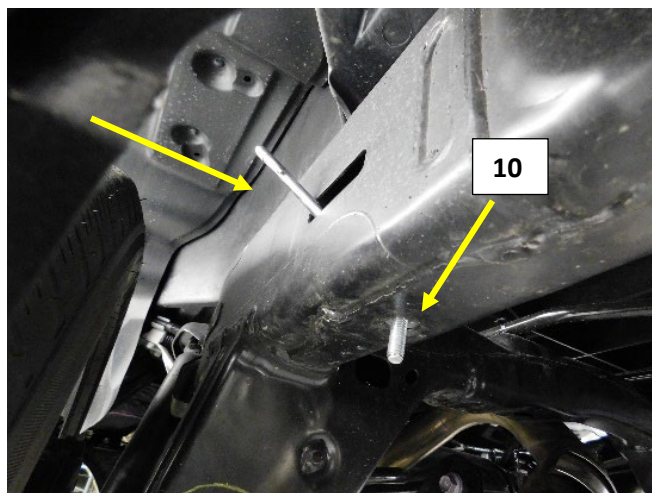

Figure.9
3. Install a supplied flat washer (13) on to the Supplied 5/16 X 1" bolt (10).
4. Install the bolt and washer through the access hole and into the square hole in the bottom of the frame rail just below the access hole. This is best accomplished with a small telescoping magnet or magnetic screwdriver that will hold the bolt and washer as they are installed into the frame rail. Fig.9